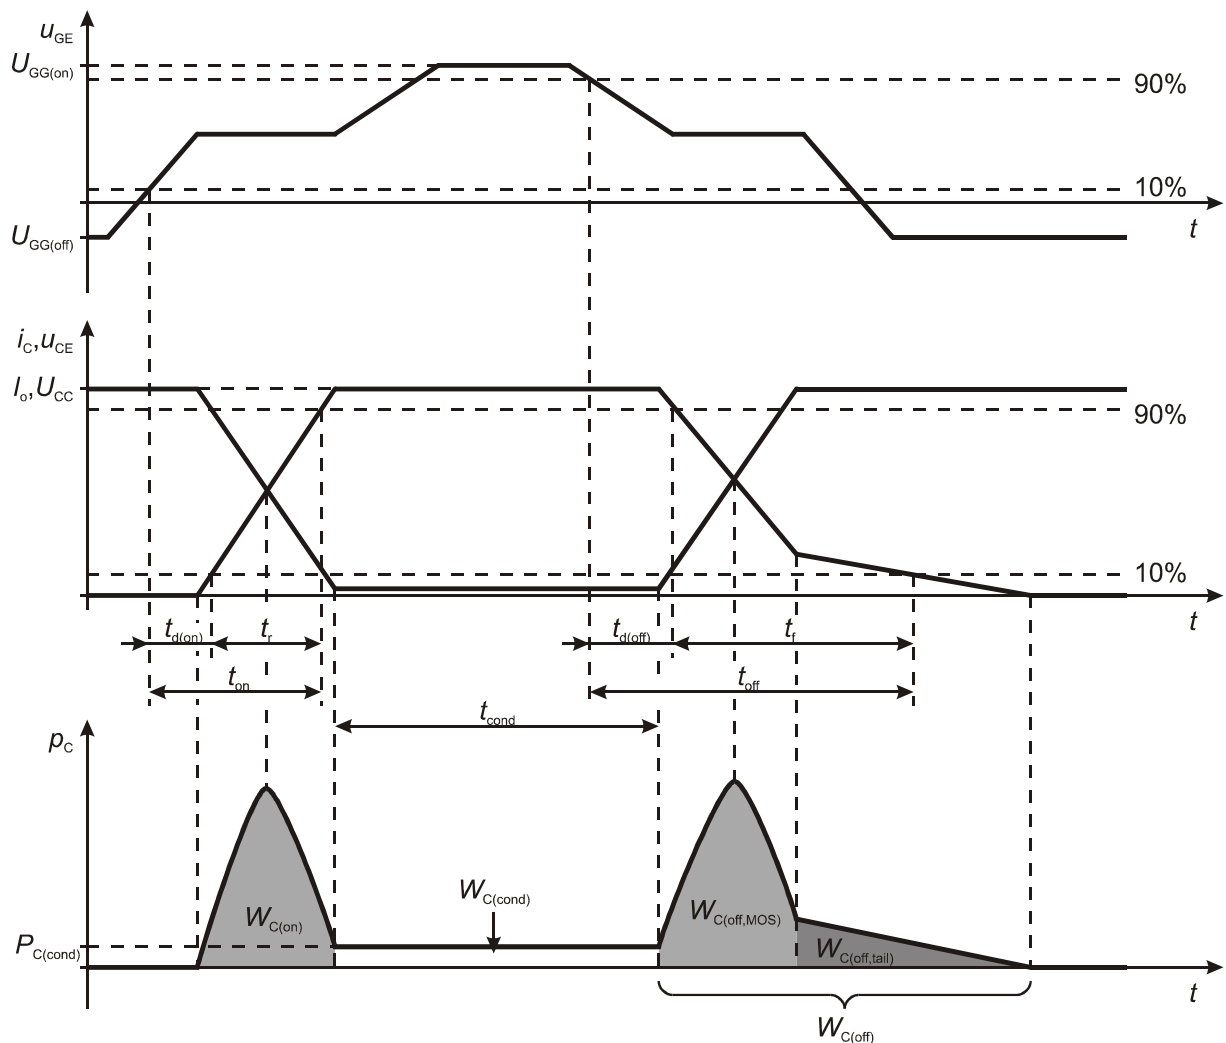

Fig. 3. The most important IGBT dynamic parameters (the plots do not reproduce the exact waveforms)
- (b) make sure that all the threshold crossing moments are visible on the screen enabling determining the time-related parameters for turn-on (see Fig. 3);
5. Based on the oscilloscope image, determine the voltage and current thresholds necessary for using the technical definitions of the time-related dynamic parameters (see Fig. 3 and Ref. 21, Section 8.5):